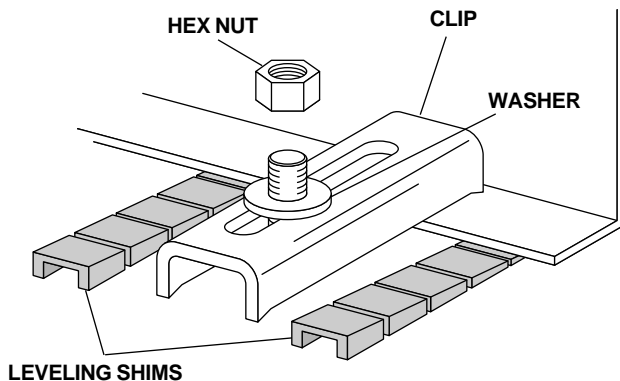

FIGURE 4
6. To secure the wash station to the floor, install the leveling shims, mounting clips, washers, and hex nuts as shown in *Figure 4*, then tighten the hex nuts.